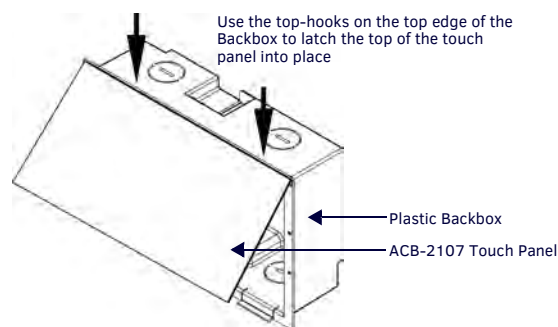

FIG. 4 ENGAGING THE TOP EDGE OF THE PANEL WITH THE TOP HOOKS ON THE BACKBOX
- Center the top edge of the touch panel against the upper outside edge of the Backbox and latch the top of the panel onto the Backbox top-hooks (FIG. 4):